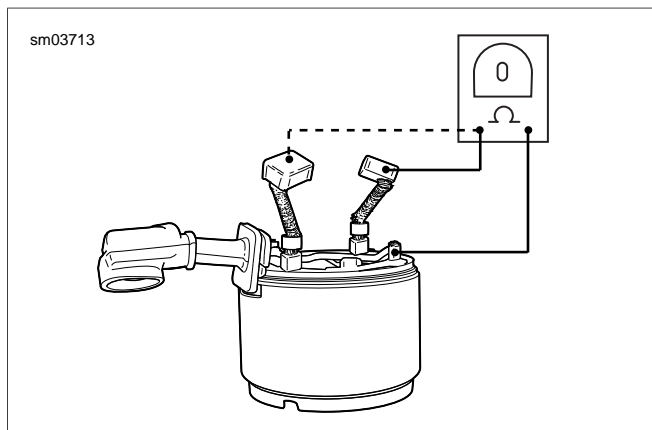

Figure 1-16. Open Field Coil Test
4. See Figure 1-16. Check for an open field coil winding with an ohmmeter or continuity tester.